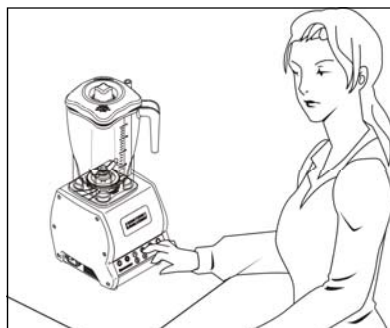

FIG.n.8 - Correct position
Before the test inspection of the appliance, make sure that the jug is in the proper position. The micro switch support must be in its range of action (see FIG. n.8). Then test the functioning as follows:
- 5 It must be well-positioned to avoid accidents (see *FIG. n.8*). The body must be perpendicular to the table. The hands must not force parts or obstacle their movement.